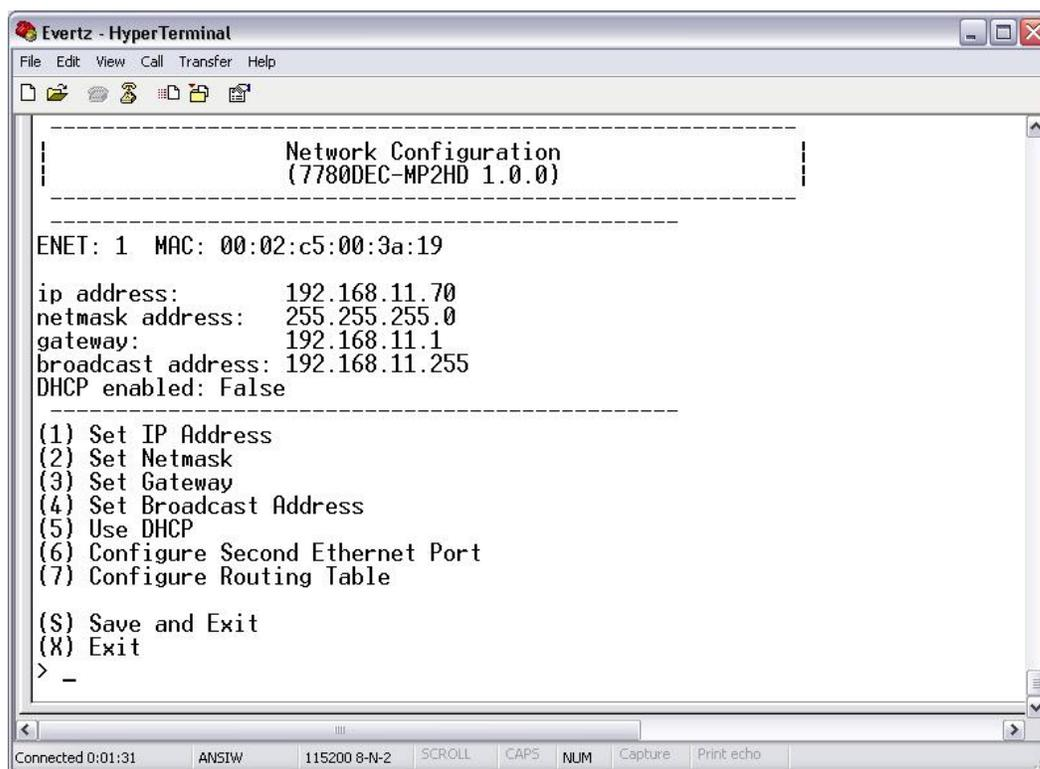

Figure 2-5: Network Configuration Sub-Menu
Now select option (1) *Network Configuration*, the Network Configuration menu will be displayed as shown in Figure 2-5. If you prefer to use DHCP then you may select option (5) *Use DHCP*, and then continue from step 4:
1. Select option (1) *Set IP Address* and configure the IP address for the 7780DEC-MP2HD ensuring that the IP address is not already in use on the network.
2. Now select option (2) *Set Netmask* and configure the correct subnet mask for your network.
3. If required also configure option (3) *Set Gateway*.